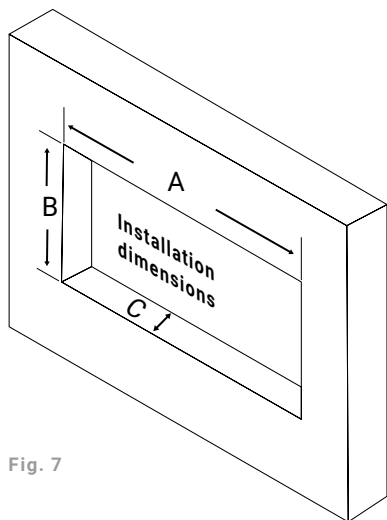

Fig. 7
1. Choose a location that is not susceptible to moisture and complies with the prescribed minimum clearances. Ensure that the opening is large enough for the recess dimensions (see Figure 7).